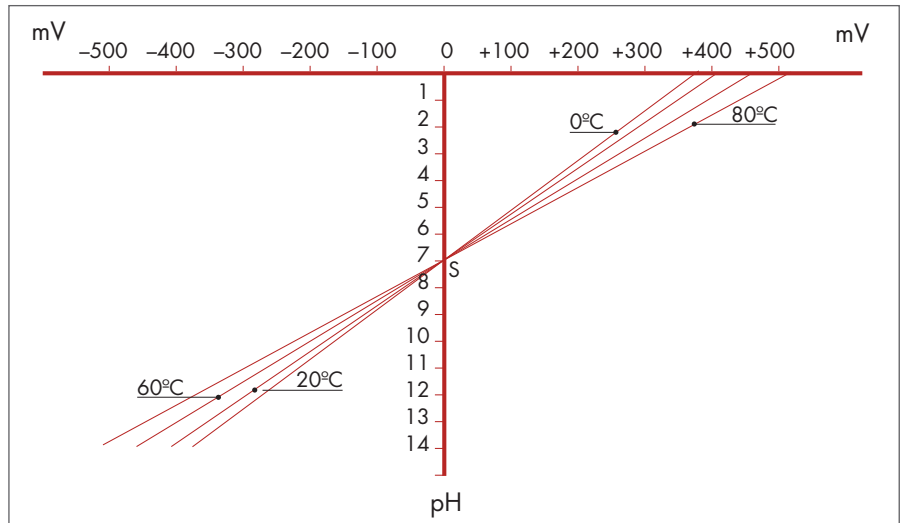

Fig. 2.6 Temperature effect on the mV/pH ratio.
The temperature effects obtained by immersing the electrodes in different standard solutions and then by varying the temperature of these standard solutions, are shown in the graphs of fig. 2.6.
- c. the intersection point is dependent on the pH of the buffer solution used in the glass electrode (this is usually pH 7). It is important that the isothermal lines intersect at only one point. So selection of the correct buffer solution is essential in order to obtain an accurate isothermal point of intersection S, shown in figure 2.6.